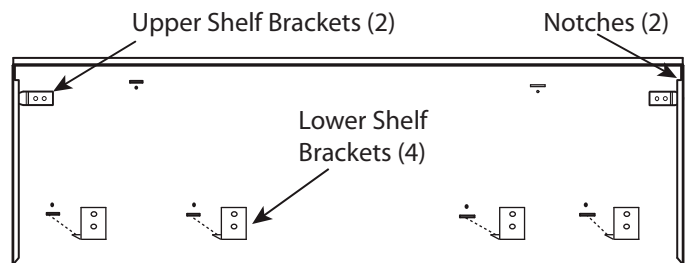

Figure 18: 48" Back of Wall Plate
2. Mount the (2) upper shelf brackets and the (3) lower shelf brackets on the 30" & 36" models or (4) lower shelf brackets for the 48" model at the locations outlined on the templates. Secure with (10) 1" (25.4 mm) screws provided.
5. Install the wall plate by setting the corner notches (back of wall plate) atop the (2) upper shelf brackets.
6. Slide the shelf upwards until the bottom engages with the lower shelf brackets (Figure 18).